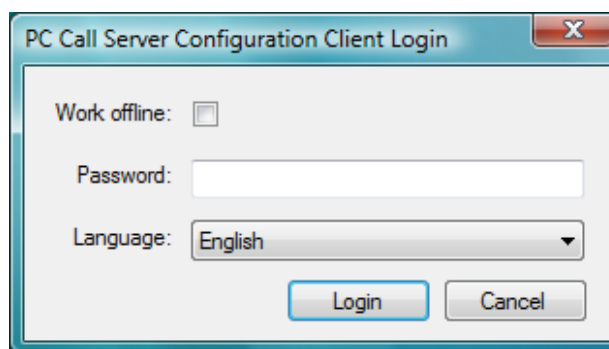

figure 59.1: PCCstConfig Login
- 2 Click *PC Call Server Configuration Client*. A screen similar to the one in figure 59.1 appears.